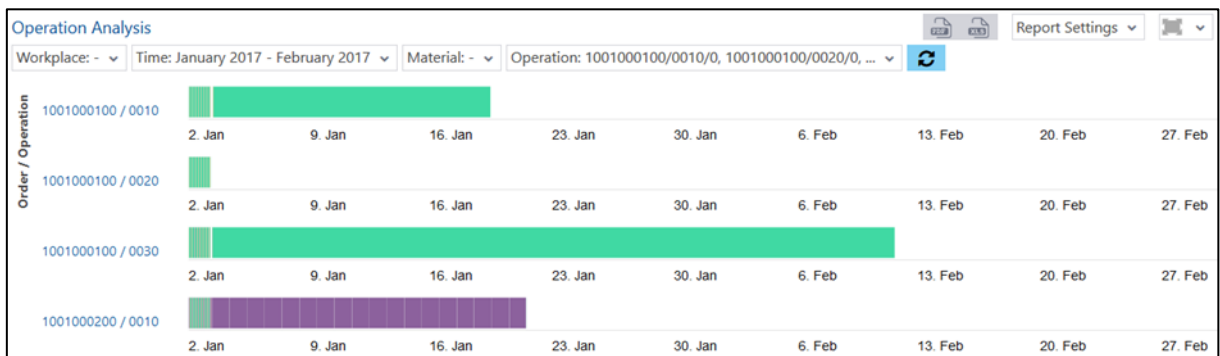

Fig. 146: Operation analysis as timeline
- Operation analysis as timelines (fig. 146):